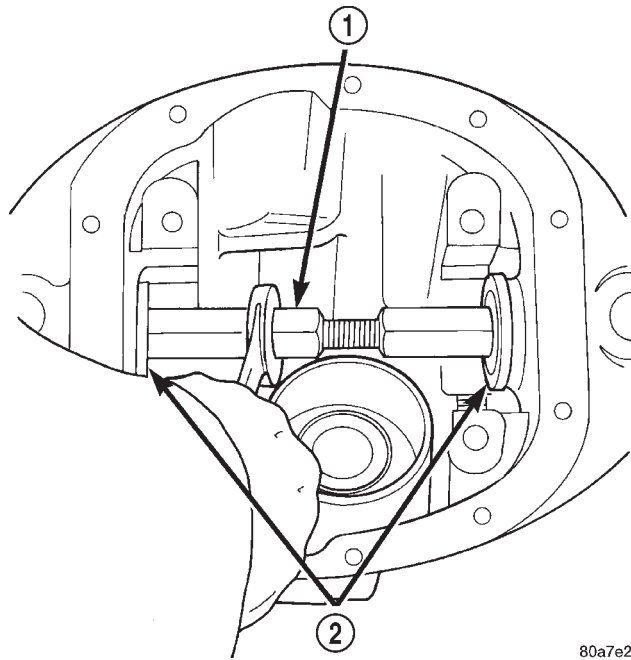

Fig. 37 Axle Seal Installation
- (1) Remove any sealer remaining from original seals.
- (2) Remove sealer from axle tube to housing junction, if necessary.
- (3) Install oil seals with Discs 8110 and Turnbuckle 6797 (Fig. 37). Tighten tool until disc bottoms in housing.
- (4) Install differential assembly.